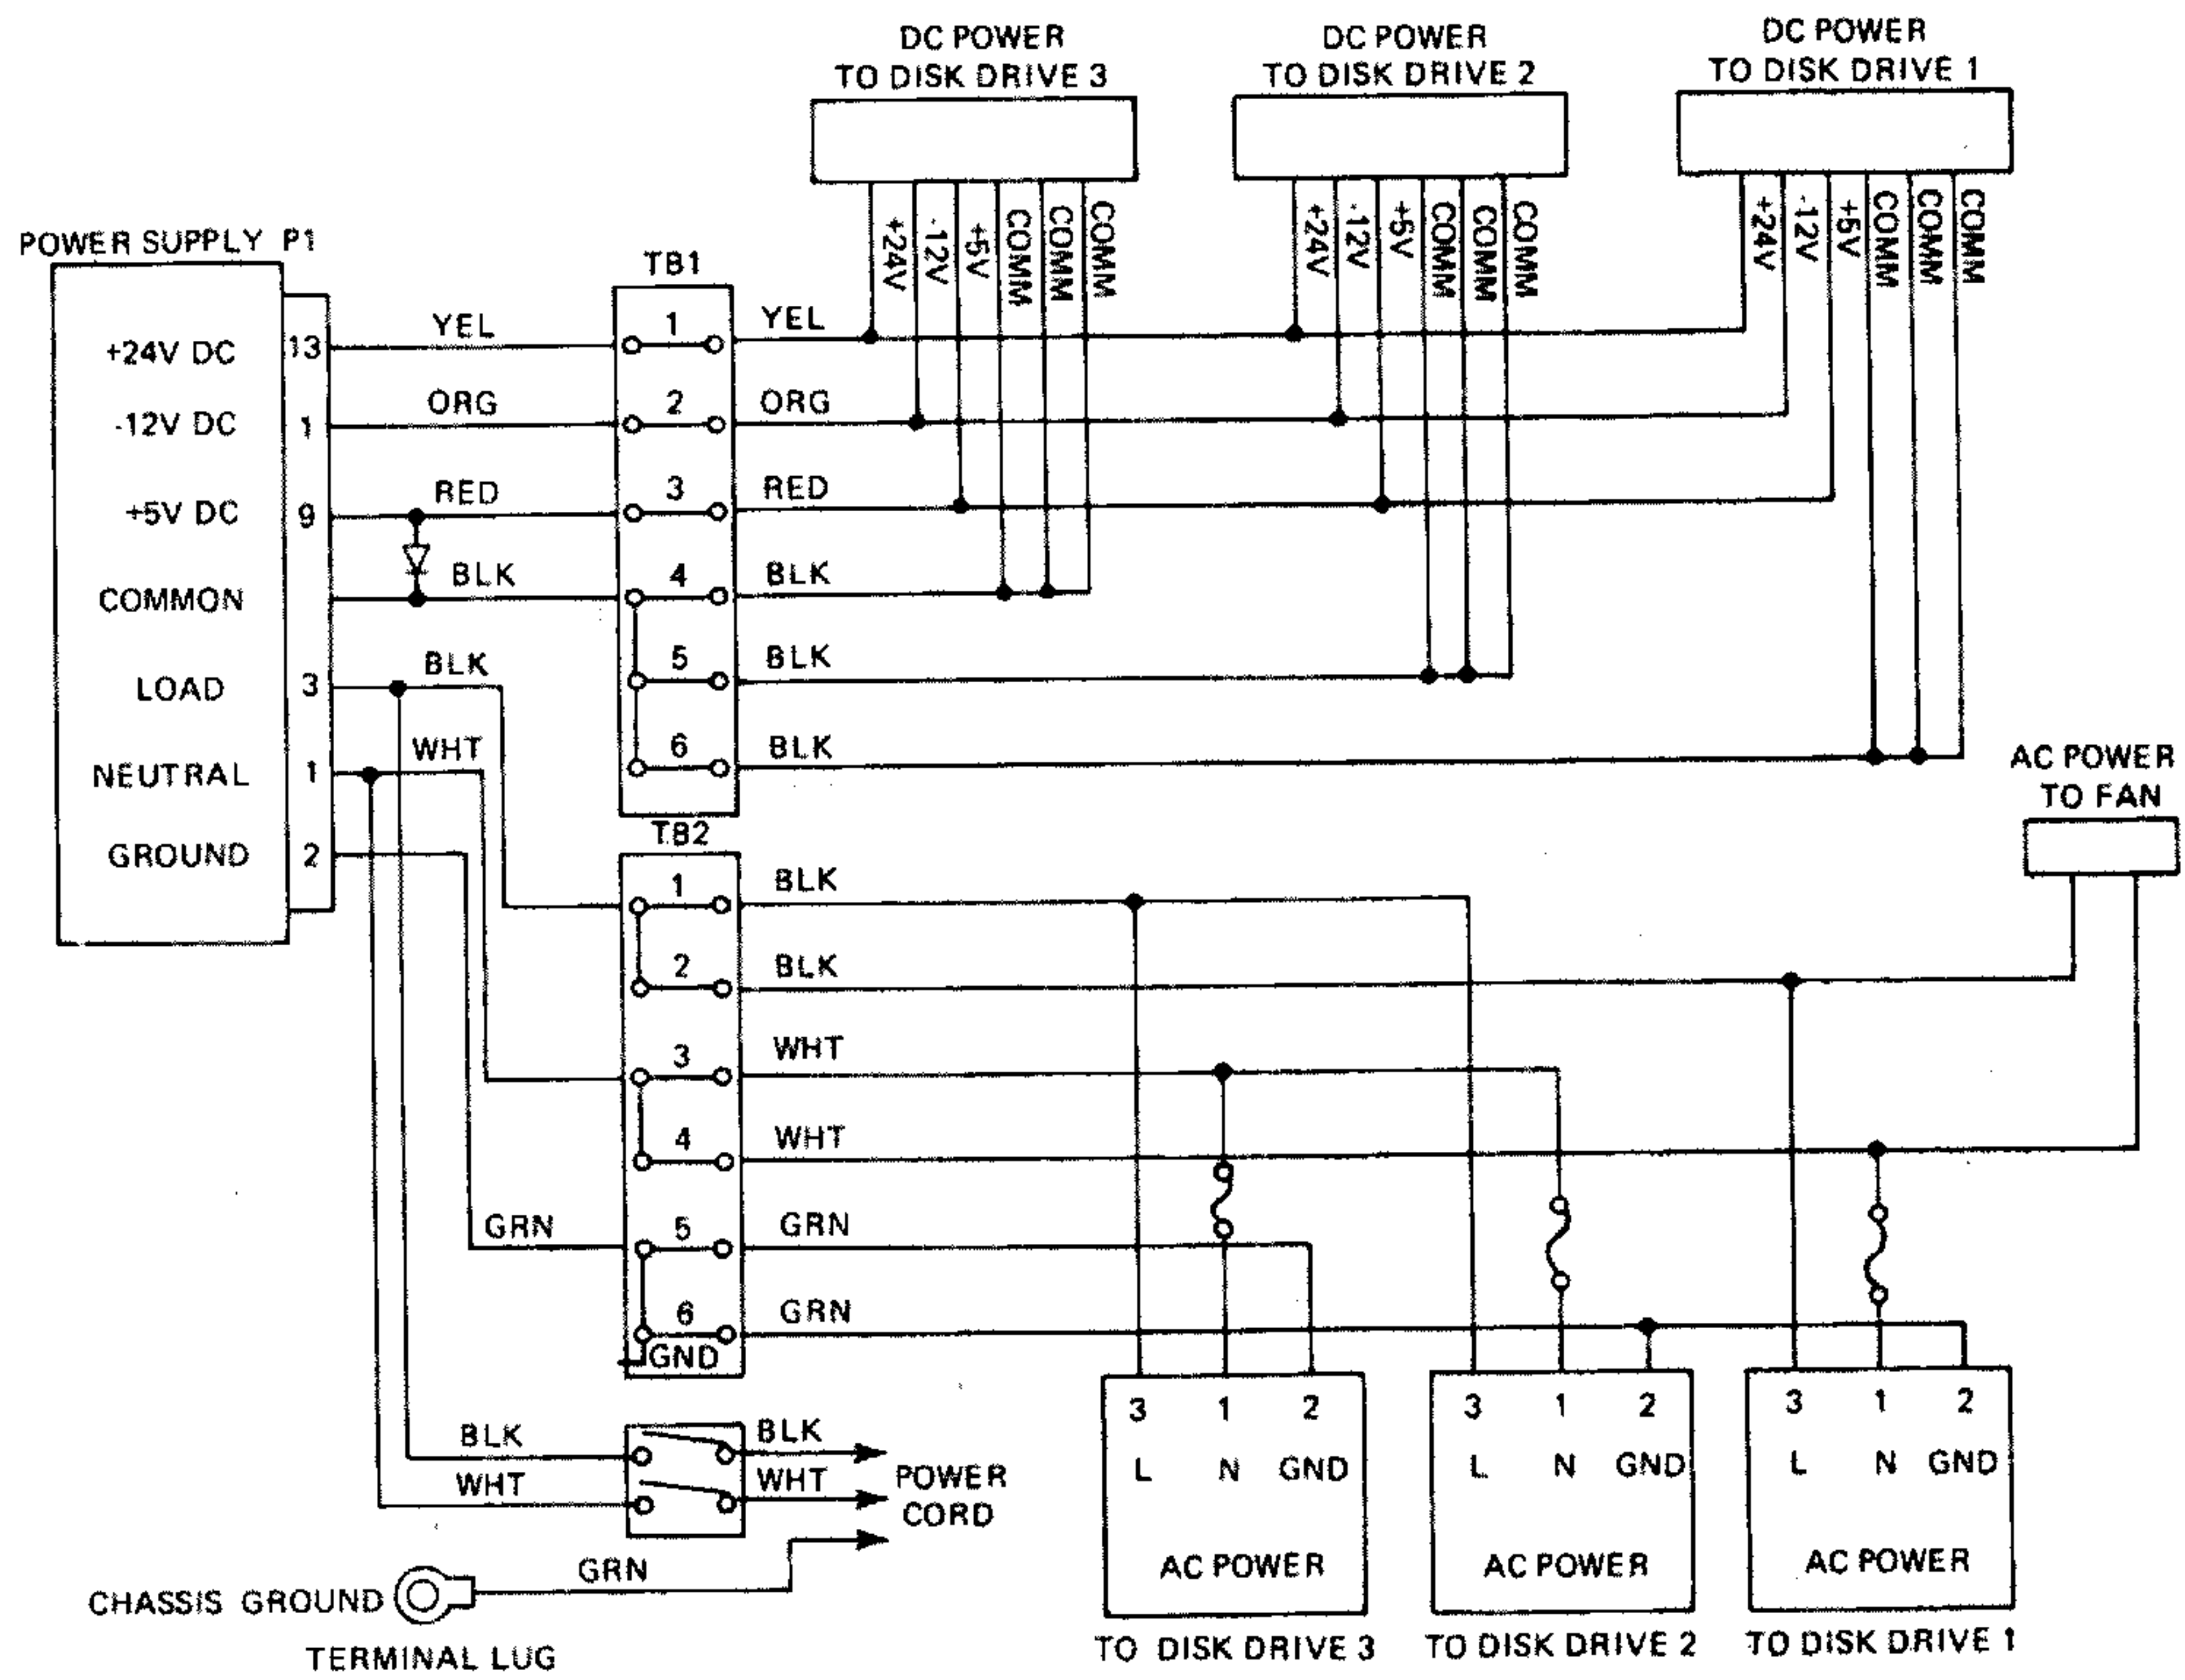

Figure 1. Disk Expansion Unit Wiring Diagram
- f) If LED does not light, it indicates either a bad LED or a +5 volt circuit failure. First, check all DC voltages (+5V  $\pm$ 2%; -12V  $\pm$ 5%; +12V  $\pm$ 10%) at the power supply output terminals (see Figure 1). If the correct voltages are not present then disconnect the wiring harness from the output terminals, install a 4 ohm, 5 watt resistor between +5 and COM and check voltages again.